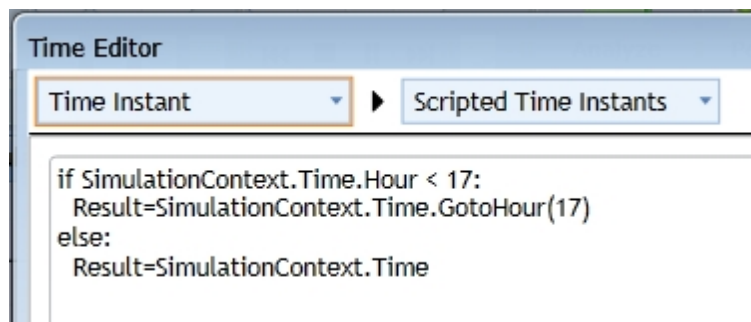

Figure 3 - Assigning the arrival time of event "Quit working for today"
- "Quit working for today" has a scripted time assigned, see figure 3 for the code